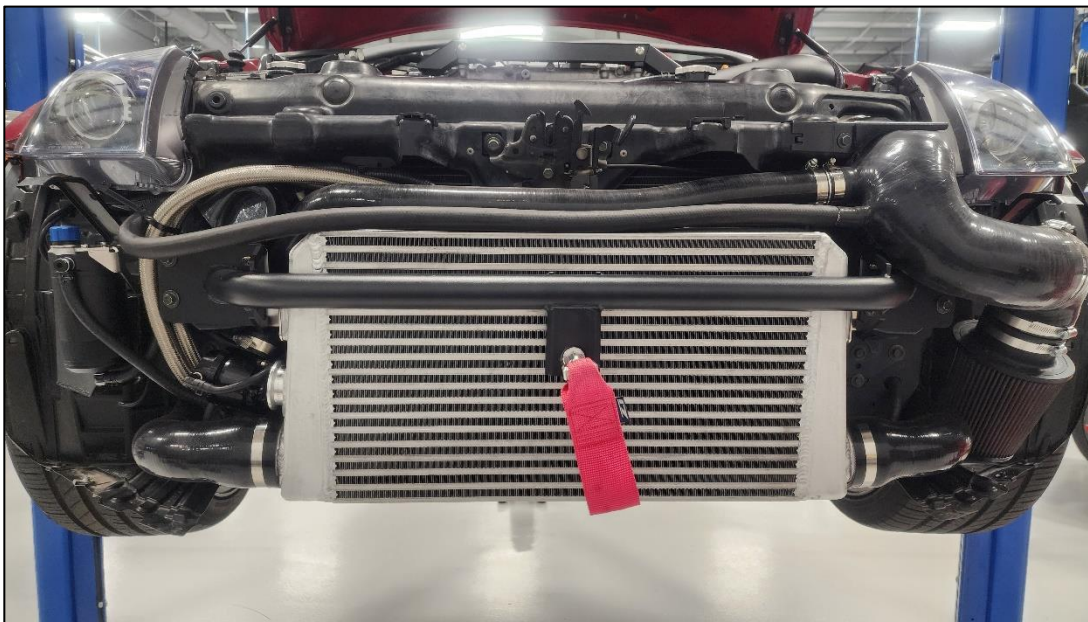

Figure 3
14. If applicable, install tow hook per manufacturer's instructions. *Figure 3.*